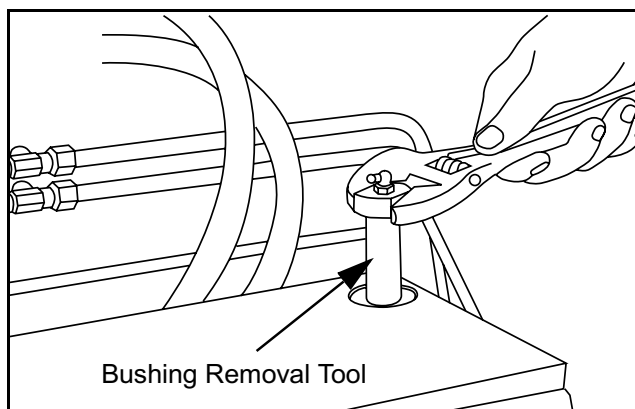

Figure 6 - 15 Install bushing removal tool
- 2) Install and tighten the bushing removal tool into the bolt hole. (Figure 6 - 15)